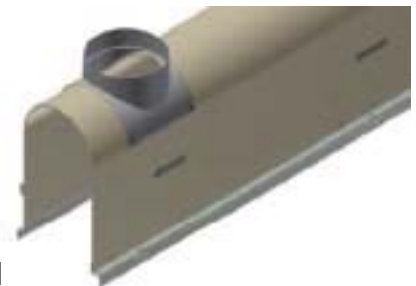

Figure 5.11
- Press the bottom outlet onto the channel. Ensure the joint is properly sealed. For added stability install at least 4 drywall screws through the bottom outlet and channel. See Fig. 5.11